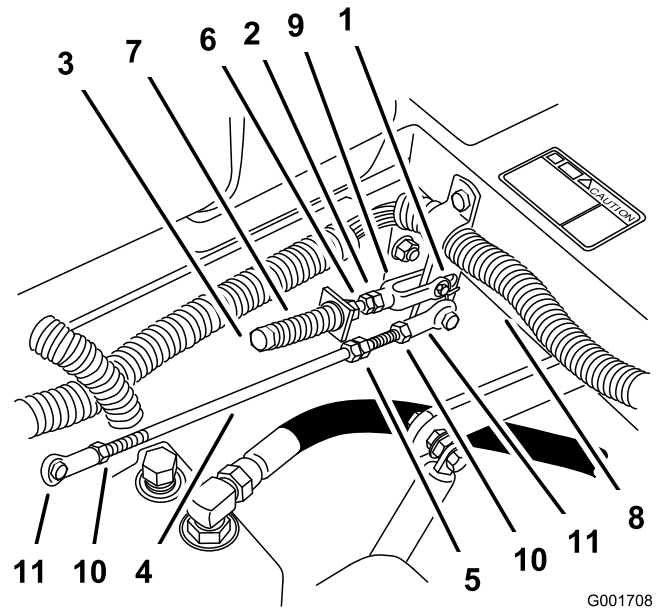

Figure 62
8. If adjustment is needed, loosen the nut and jam nut against the yoke (Figure 62).
9. Apply slight rearward pressure on the motion control lever, turn the head of the adjustment bolt in the appropriate direction until the control lever is centered in the neutral lock position (Figure 62).
10. Tighten the nut and jam nut (Figure 62).